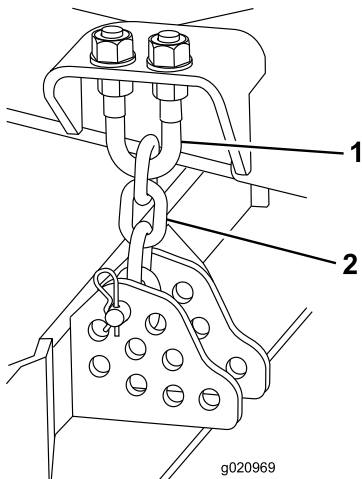

Figure 110
1. Loosen the jam nuts on the top or bottom of the height-of-cut-chain U-bolt (Figure 110).